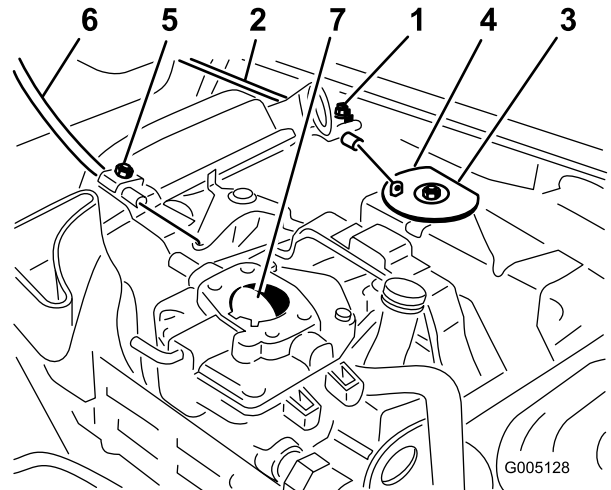

Figure 35
- Loosen the cable clamp screw securing the cable to the engine (Figure 35).
- Pull firmly on the throttle cable until the back of the swivel contacts the stop (Figure 35).
- Pull firmly on the choke cable until the choke butterfly is completely closed, then tighten the cable clamp screw (Figure 35).